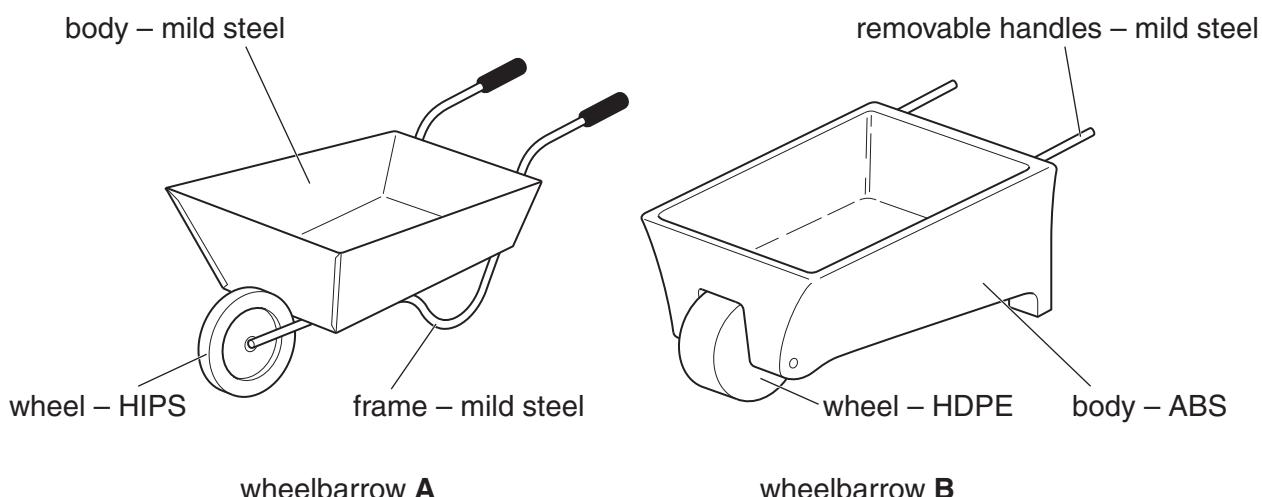

Fig. 1
- 2 Fig. 1 shows two garden wheelbarrows.